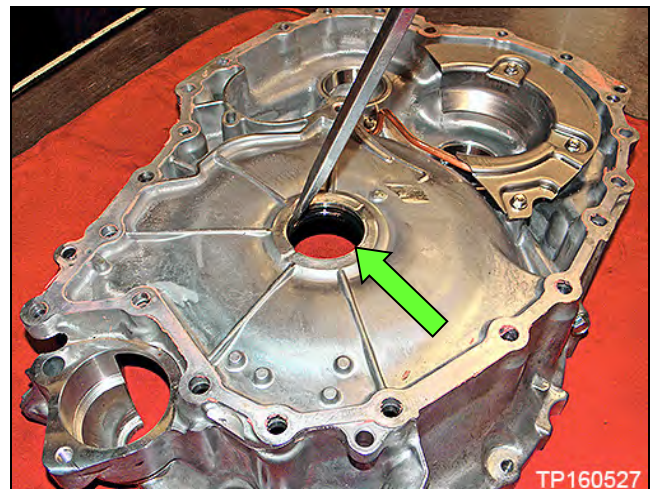

Figure 9B
- b. Torque converter seal (Figure 9B).